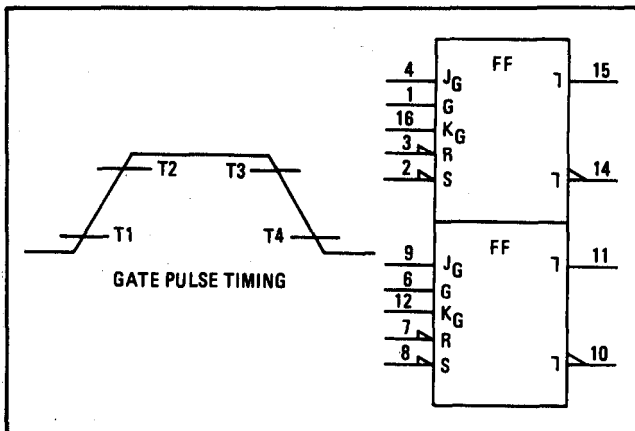

Figure 8-6. Dual J-K Master/Slave Flip-Flop and Gate Pulse Timing
**8-36. Dual J-K Master/Slave Flip-Flop.** The dual J-K Master/Slave Flip-Flop shown in Figure 8-6 consists of two independent J-K flip-flops. Inputs to the master section is controlled by the gate (G)